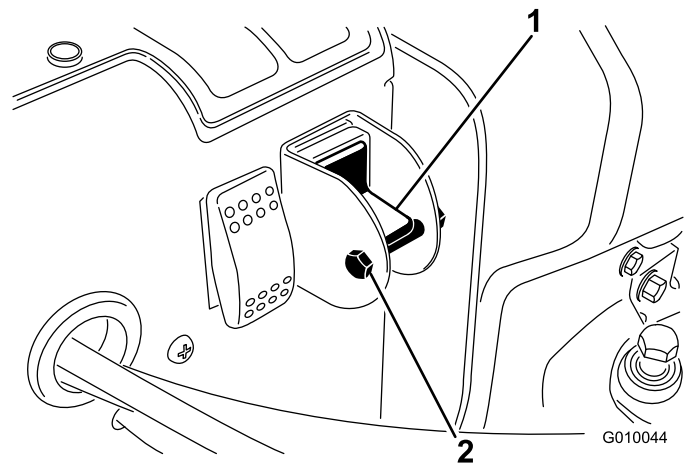

Figure 29
3. Remove locking bolt and nut from selector switch (Figure 29).